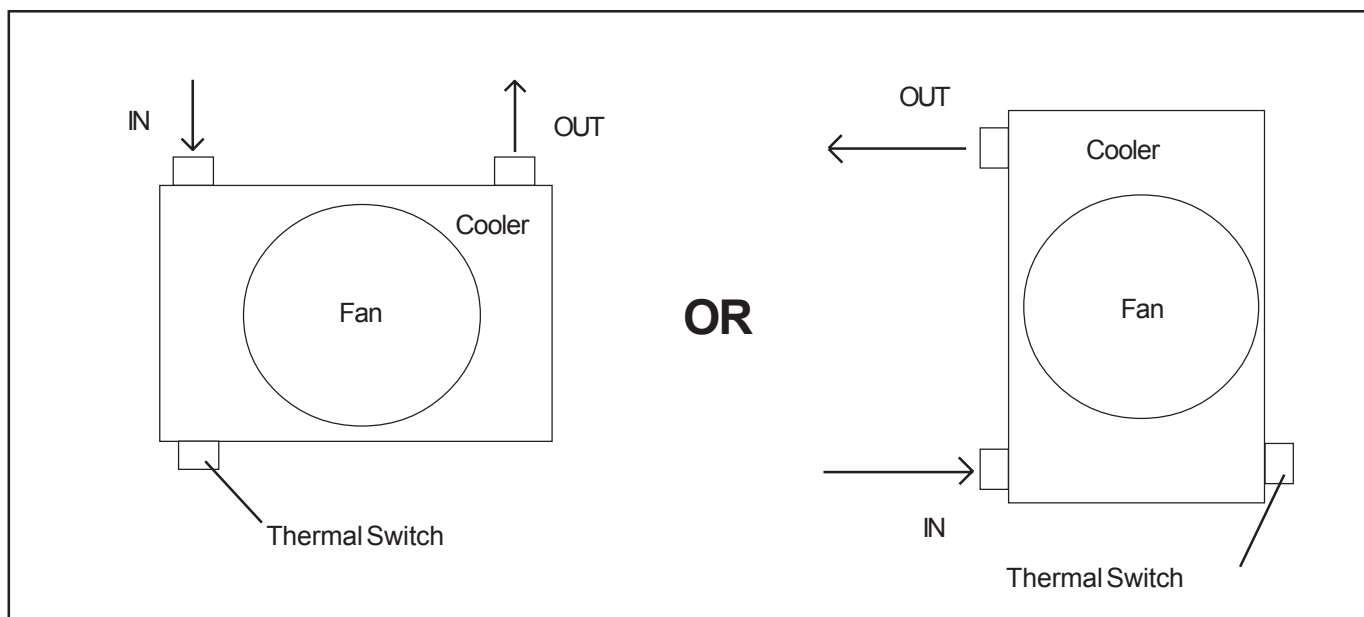

FIGURE 1
STEP 1. Decide on the best mounting position for your cooler. Do not attach the B&M Hi-Tek Cooling System to the chassis or frame rails that may flex during vehicle operation. This may result in leaks or oil cooler failure. Rubber isolation mounts are recommended for long service life. Remove the shipping covers from the fittings on the cooler. Note: the cooler must be properly positioned for proper function of the temperature switch (see figure 1). Improper positioning of the cooler switch may result in oil temperatures that exceed the switch ON point without activating the fan. Furthermore, if the switch, itself, is located in an area of heavy air flow, insulative material may be required to prevent excessive radiant cooling and improper switch function as well.